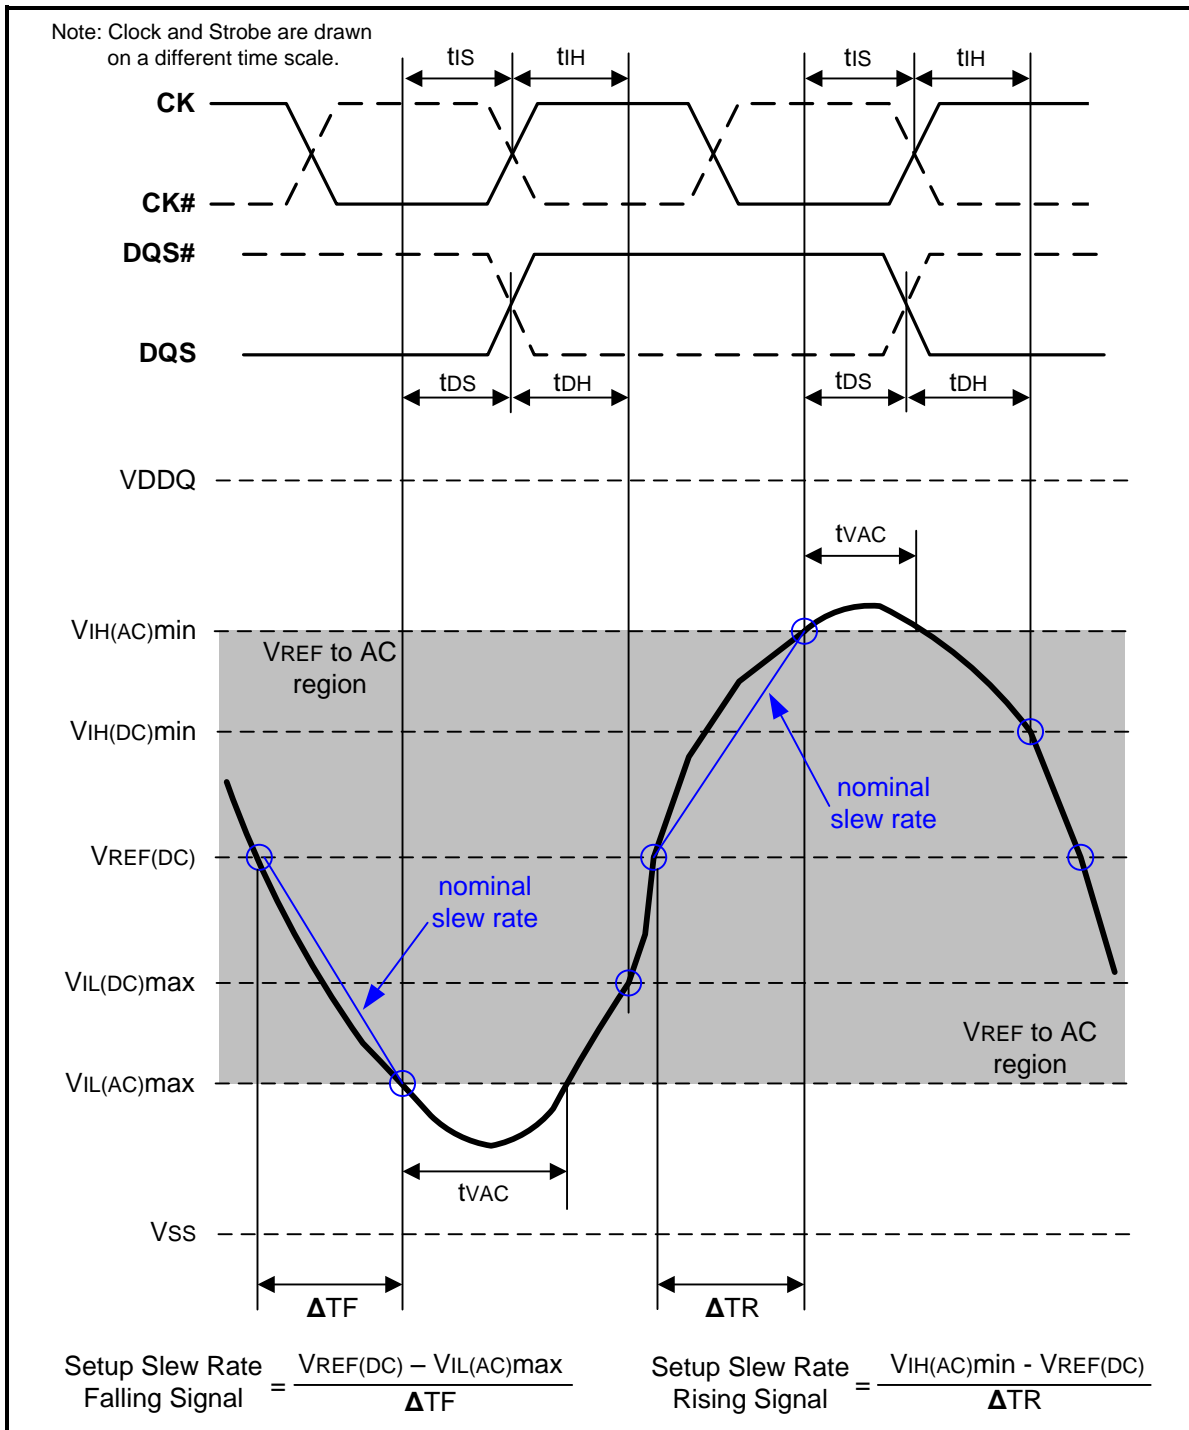
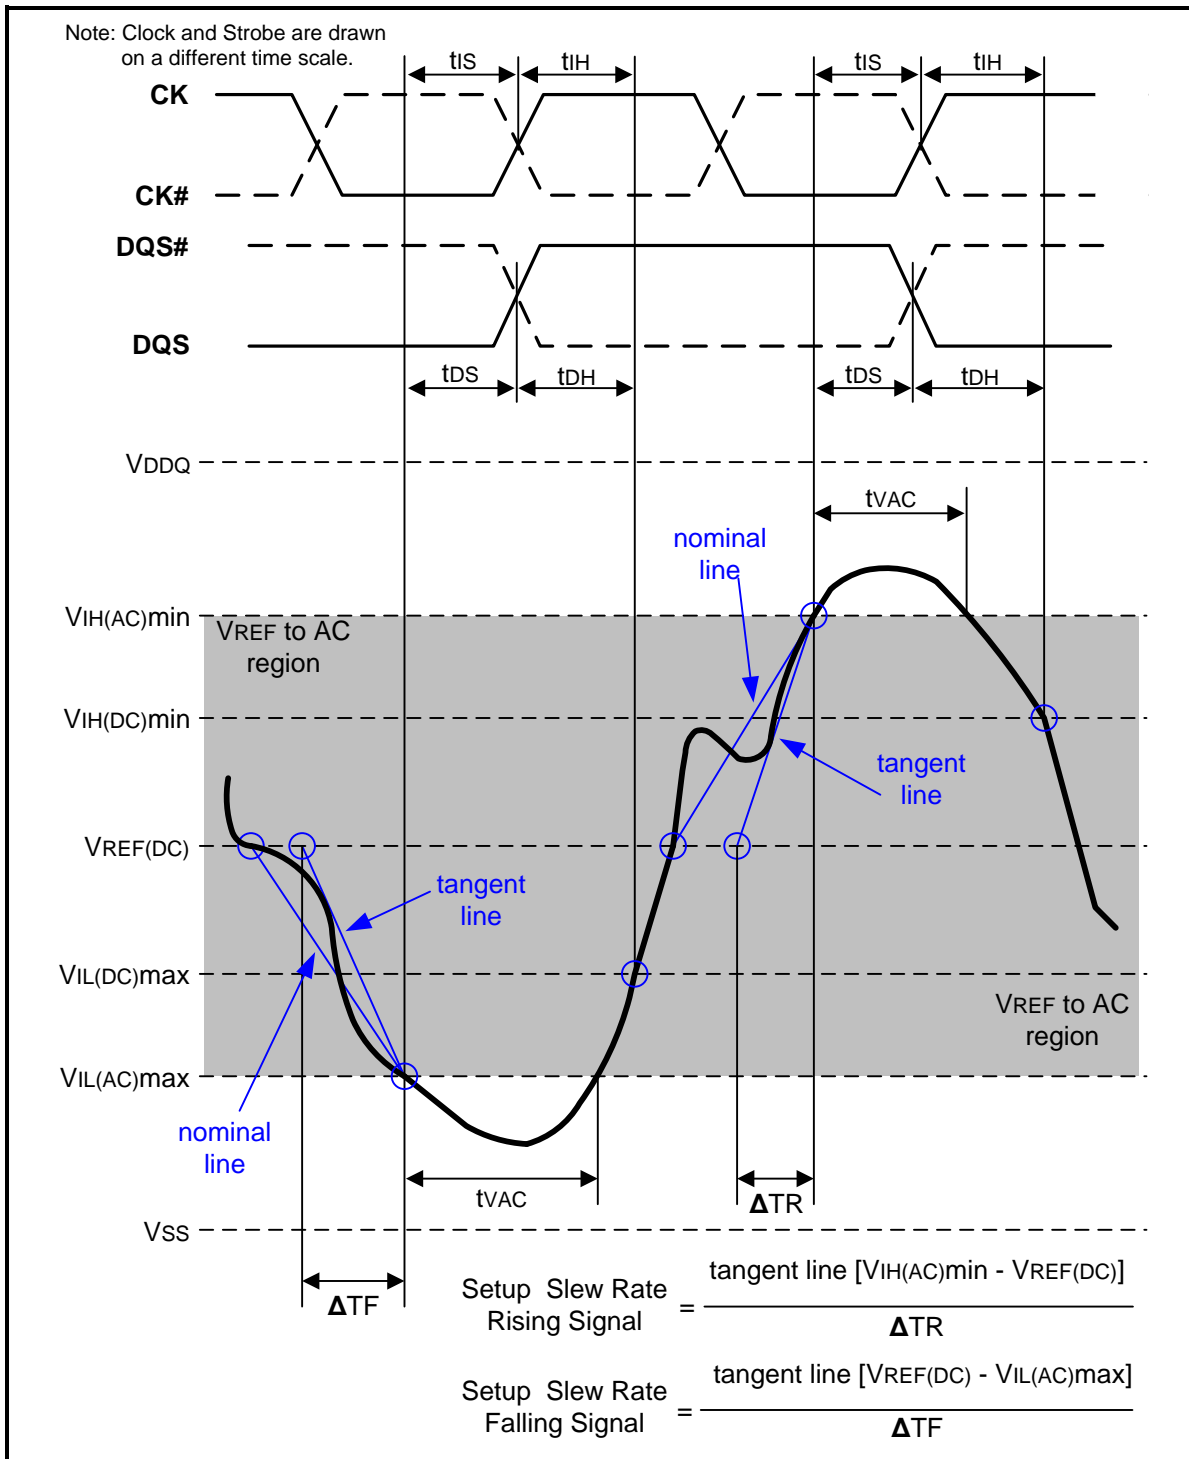

Figure 107 – Illustration of nominal slew rate and tvac for setup time tds (for DQ with respect to strobe) and tis (for ADD/CMD with respect to clock)
Figure 109 – Illustration of tangent line for setup time t_{DS} (for DQ with respect to strobe) and t_{IS} (for ADD/CMD with respect to clock)
Setup (t_{IS}) nominal slew rate for a rising signal is defined as the slew rate between the last crossing of $V_{REF(DC)}$ and the first crossing of $V_{IH(AC)min}$. Setup (t_{IS}) nominal slew rate for a falling signal is defined as the slew rate between the last crossing of $V_{REF(DC)}$ and the first crossing of $V_{IL(AC)max}$. If the actual signal is always earlier than the nominal slew rate line between shaded 'VREF(DC) to AC region', use nominal slew rate for derating value (see Figure 107). If the actual signal is later than the nominal slew rate line anywhere between shaded 'VREF(DC) to AC region', the slew rate of a tangent line to the actual signal from the AC level to DC level is used for derating value (see Figure 109).
Setup (tDS) nominal slew rate for a rising signal is defined as the slew rate between the last crossing of VREF(DC) and the first crossing of VIH(AC)min. Setup (tDS) nominal slew rate for a falling signal is defined as the slew rate between the last crossing of VREF(DC) and the first crossing of VIL(AC)max (see Figure 107). If the actual signal is always earlier than the nominal slew rate line between shaded 'VREF(DC) to AC region', use nominal slew rate for derating value. If the actual signal is later than the nominal slew rate line anywhere between shaded 'VREF(DC) to AC region', the slew rate of a tangent line to the actual signal from the AC level to DC level is used for derating value (see Figure 109).